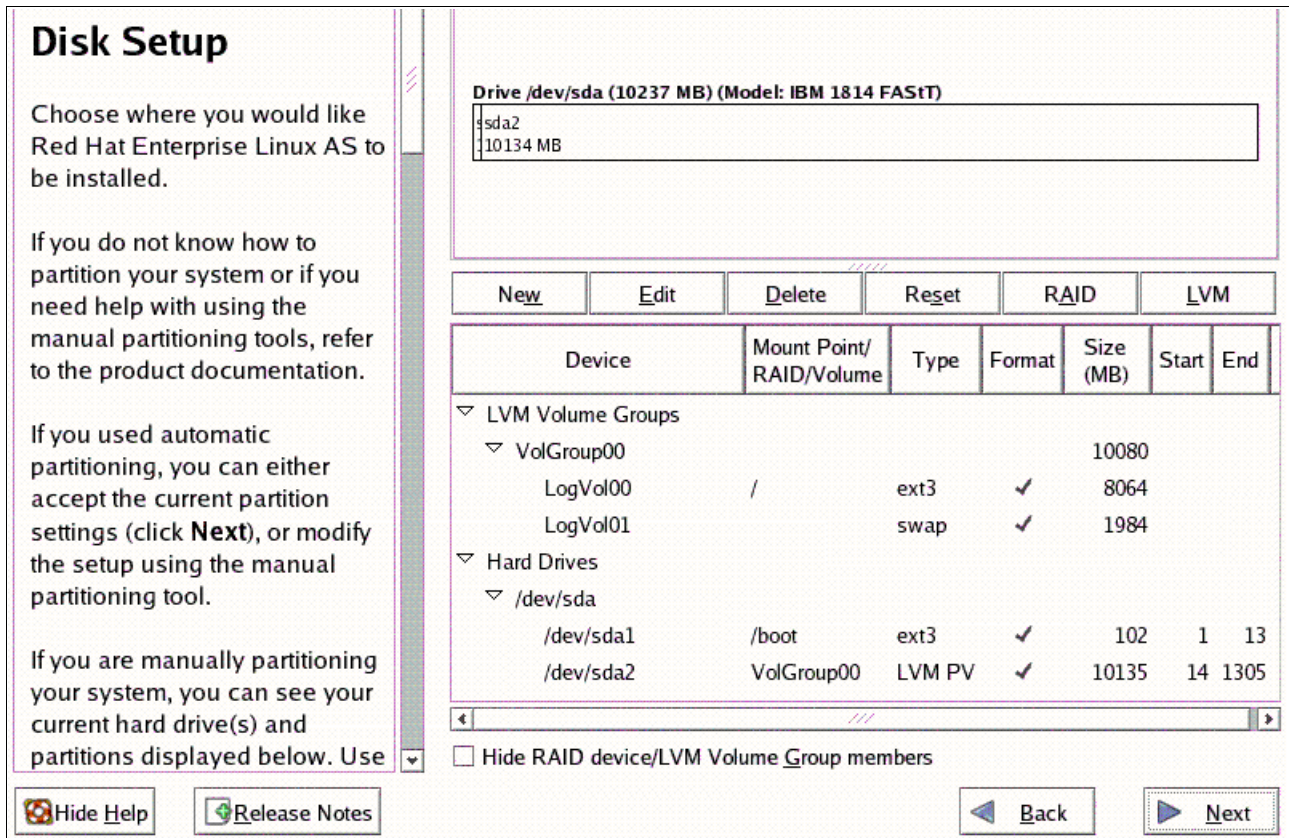

Figure 6-27 Disk Partitions on the boot LUN through automatic storage partitioning utility
10. Figure 6-27 shows the storage configuration and confirms that the Fibre Channel-attached boot LUN is accessible by the host for read and write operations.